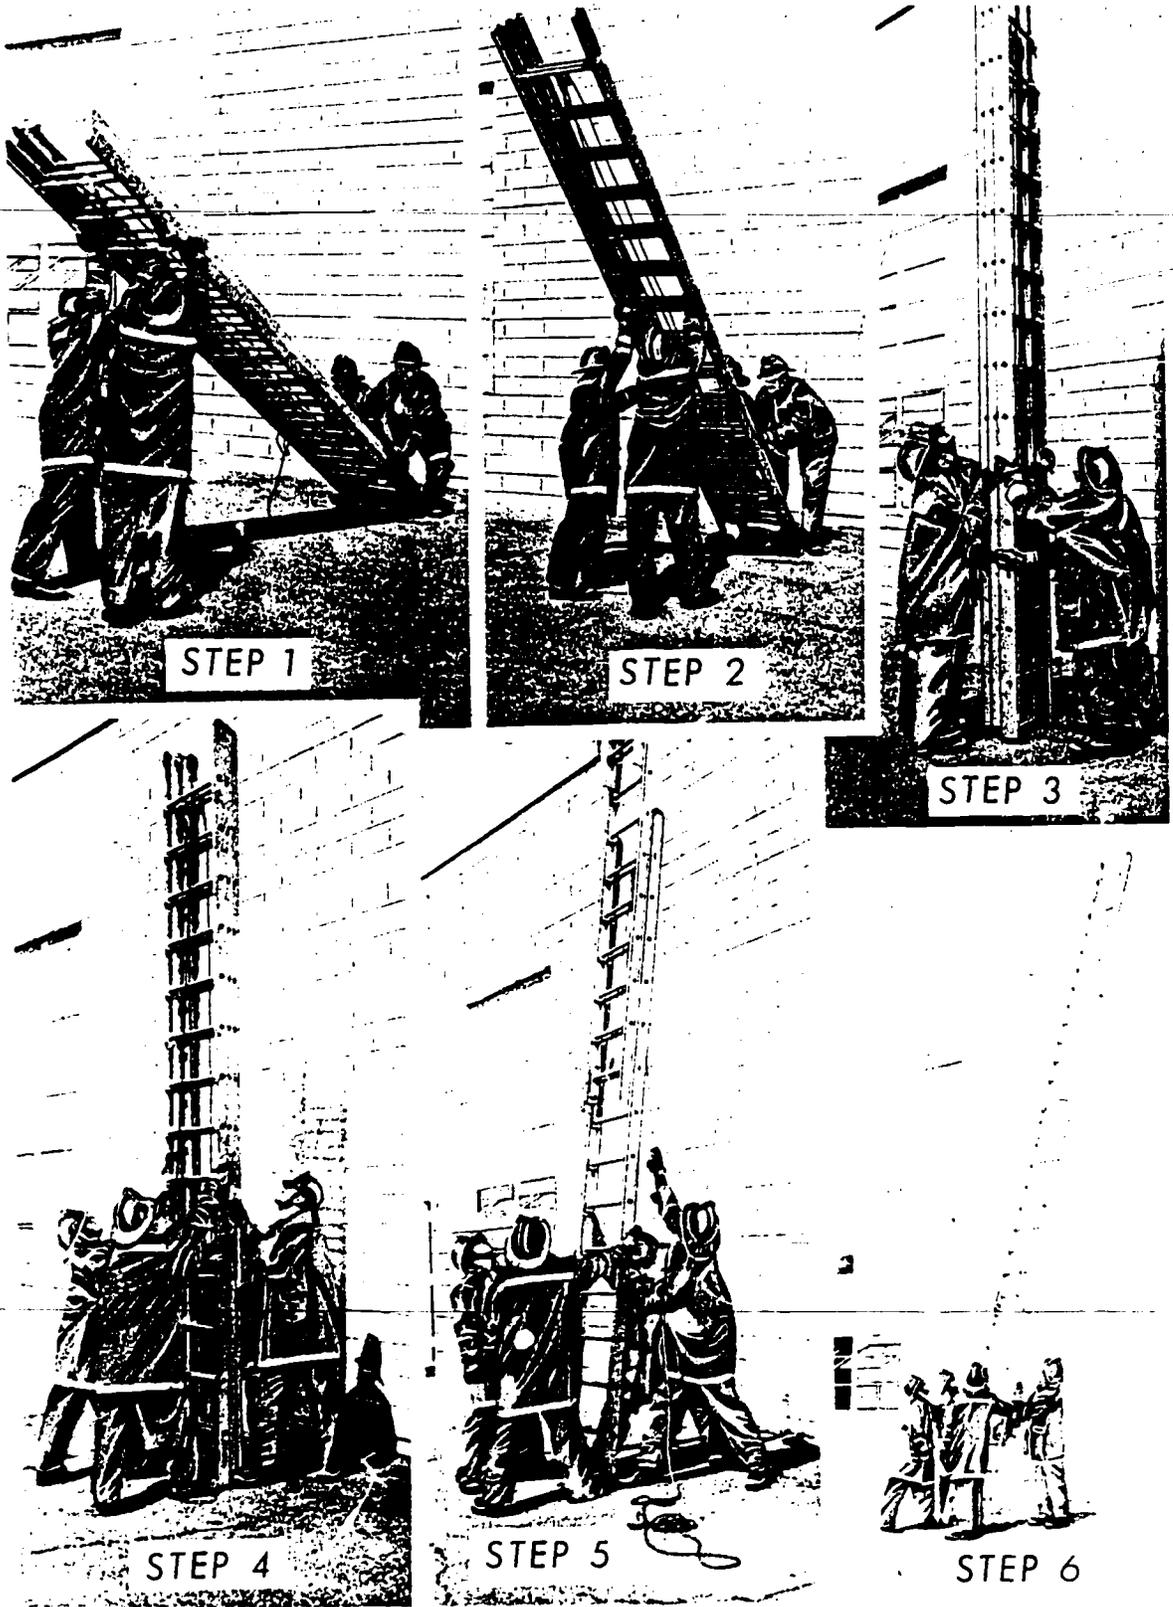

FIGURE 3-11. FOUR-MAN RAISE.
Four-man raise. As we stated earlier, the 36-foot extension ladder should not be raised by less than three people. Four men are better. The four-man raise is very similar to the three-man raise, but two men are used at the heel of the ladder on the four-man raise. The steps of the four-man raise shown in figure 3-11 are as follows:
Step 5 - Untie the halyard and raise the extension ladder, making sure the men are in the positions shown in step 5 of figure 3-11; then lock the pawls.